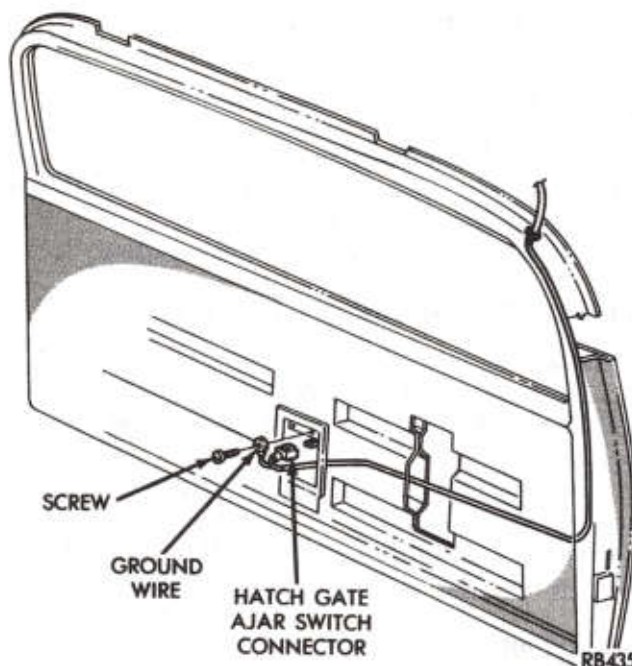

Fig. 15—Liftgate Ajar Connection
- (5) Disconnect liftgate ajar wiring (Fig. 15).
- (6) Remove latch lock assembly.